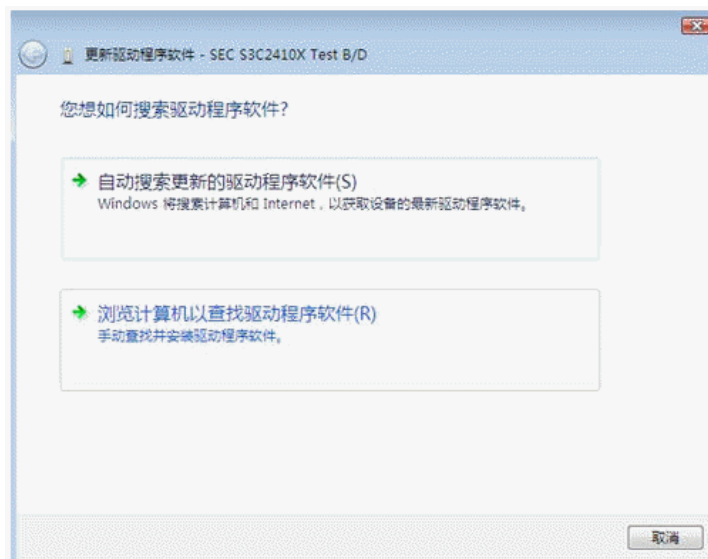

Figure 2-23: Driver updating page of VISTA
- Choose “View the computer to find the driver software” on the installation page. See Figure 2-23.